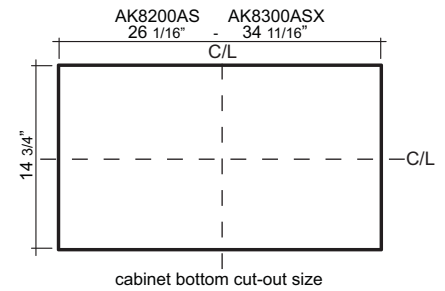

FIG 1
4. If no liner is used cut out an opening in the bottom of the cabinet by following the dimensions in FIG 1.